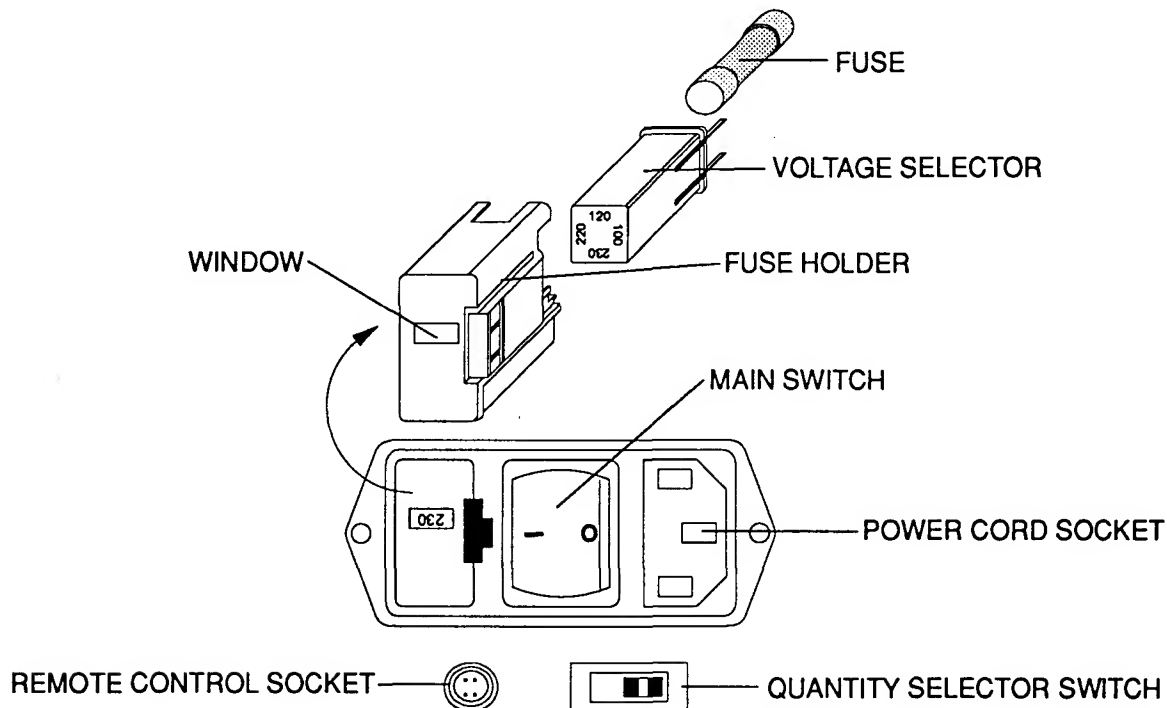

figure 4-1
**2.** Switch on the AUTOMIXER II Plus by pressing the MAIN SWITCH at the rear side of the AUTOMIXER II Plus (figure 4-1). Check the following:
- The POWER-ON Indicator (C) is energized.
3. Press the WATER VALVE SWITCHES. Water enters the tanks. The water stops when the quantity (depending on the setting of the QUANTITY SELECTOR SWITCH figure 4-1 20L / 5 Gallons 40L / 10 Gallons) is reached. It is not necessary to wait until the selected level is reached. You can stop the water flow at any time.